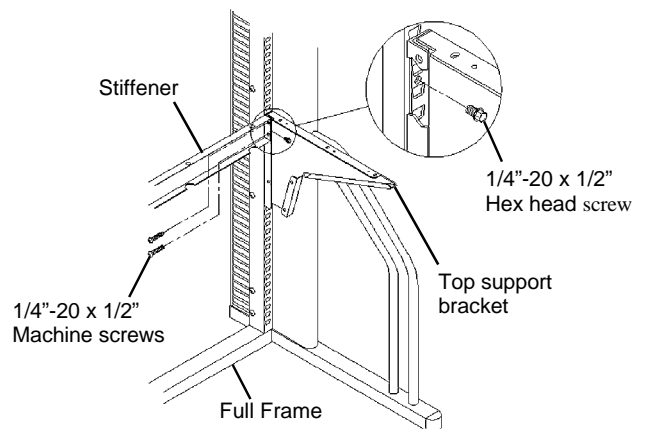

Figure 4
3. Locate the small hole inside the back of the Top Support and insert the 1/4"-20 x 1/2" Hex head screw with a 3/8" socket. See **Figure 4**.
4. For Worksurfaces longer than 60" in length, a **Stiffener** has to be installed. Position the Stiffener as shown in **Figure 4**. Attach the Stiffener to the Hook-on Top Supports using the 1/4"-20 x 1/2" Machine screws.